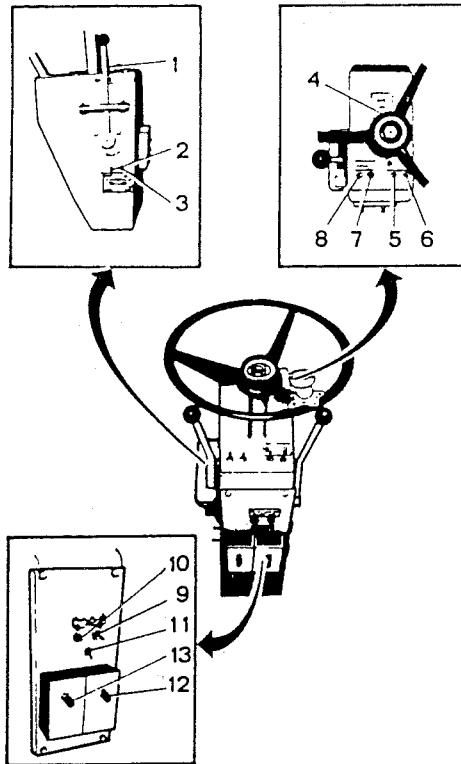

Fig. 16 Control panel
The amplitude of vibrations of the drums can be selected individually by means of the switches (2), (3) (see Fig. 16). Different amplitudes can be obtained, i.e. high amplitude at the front and low amplitude at the rear or vice versa.
Vibration can be engaged and disengaged separately on the front and rear drums by means of the switches (7) and (8), fig. 16.
The amplitude must not be changed while the vibration motor is running. Wait a few seconds before resetting the amplitude by means of switches (2) and (3), fig. 16.